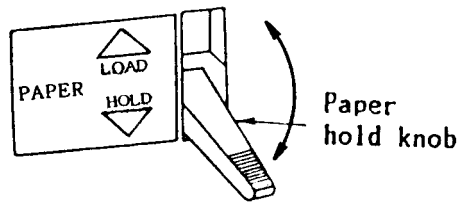

Fig. 4-3 Paper-holding knob
- (1) Lift the paper-holding knob to load the paper (Fig. 4-3).